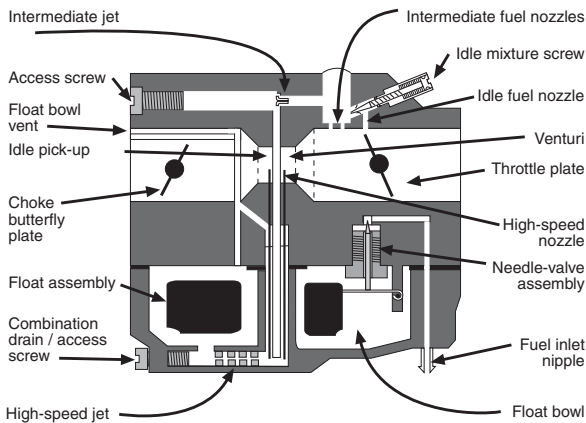

Figure 7-7. Inside a typical carburetor.
Figure 7-7 illustrates the internal layout of a typical outboard engine carburetor. You'll note that carburetors contain a series of subsystems that in technical lingo are referred to as "circuits." Each of these circuits carries out a specific job, and may operate only at cer-
***The High-Speed Circuit.*** The high-speed circuit consists of the high-speed jet, located at the bottom of the float bowl, and the tube that connects the float bowl with the center of the venturi, sometimes referred to as the high-speed fuel nozzle. This tube will often surround the idle pickup tube, as illustrated in Figure 7-7.
The simplest, and most common, method is illustrated in Figure 7-7. With this system, the choke but-